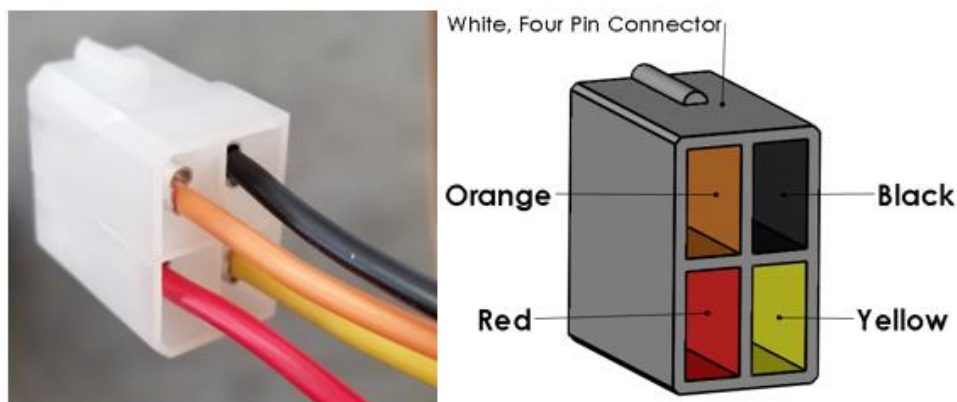

Figure 15
26. Locate the White Four Pin Connector included in the kit. Insert the other end of the 36" 3 conductor harness, Orange, Red, and Yellow wires into the White Four Pin Connector in the orientation shown in Figure 15. The metal terminals will snap into place if installed properly.
27. Insert the 36" Single Black Conductor wire in the orientation shown below in Figure 15 ensuring it snaps into position.